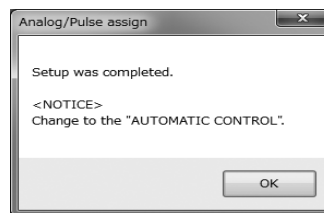

Fig.36
- ⑤ Click "OK" to change the settings to the inputted values, and then click the "OK" button in the displayed message box (Fig. 36) to complete the setting process.